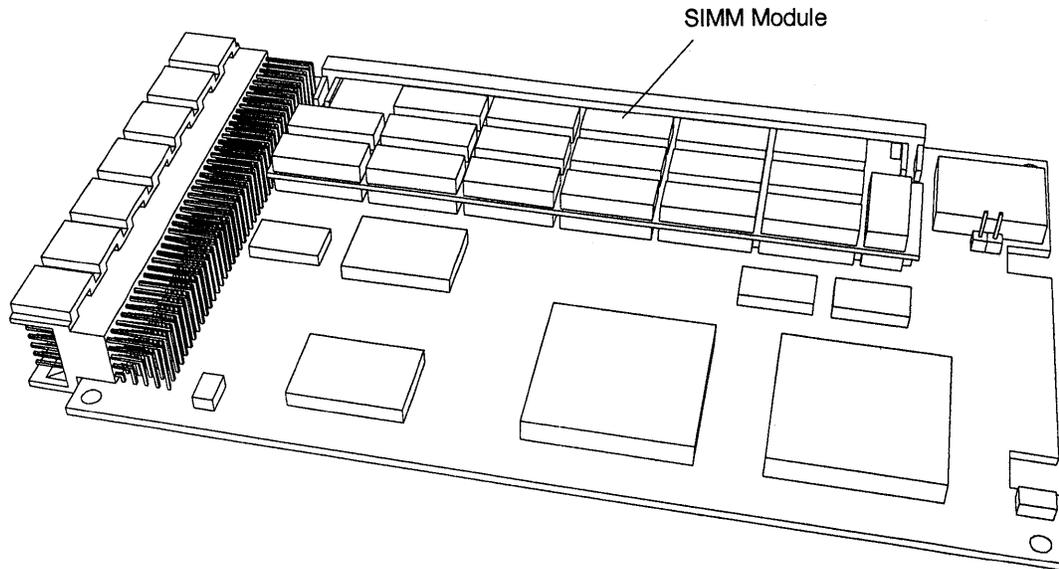

Figure A-22: Location of SIMM on Controller Board
- Step 3** Remove the old SIMM (if one is present) by lifting the side opposite from the connector until the SIMM snaps out of the connector. Then pull the SIMM free from the connector. See Figure A-22.